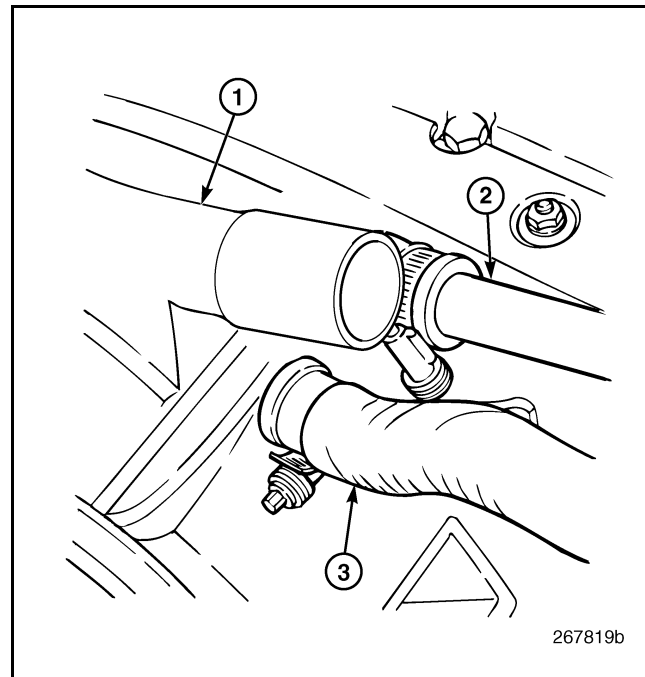

Figure 430 — Coolant Connections
2. Install the coolant supply and return hoses at the cooler inlet and outlet tubes. Install the clamps and tighten to specification (Figure 430).